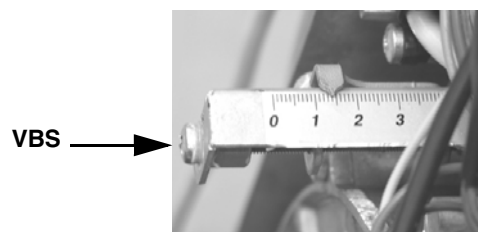

Fig. 14
- 11 Checking the combustion values, adjust the air flow rate by means of the **VSB** (Fig. 14); screw to decrease the air rate or unscrew to increase it.